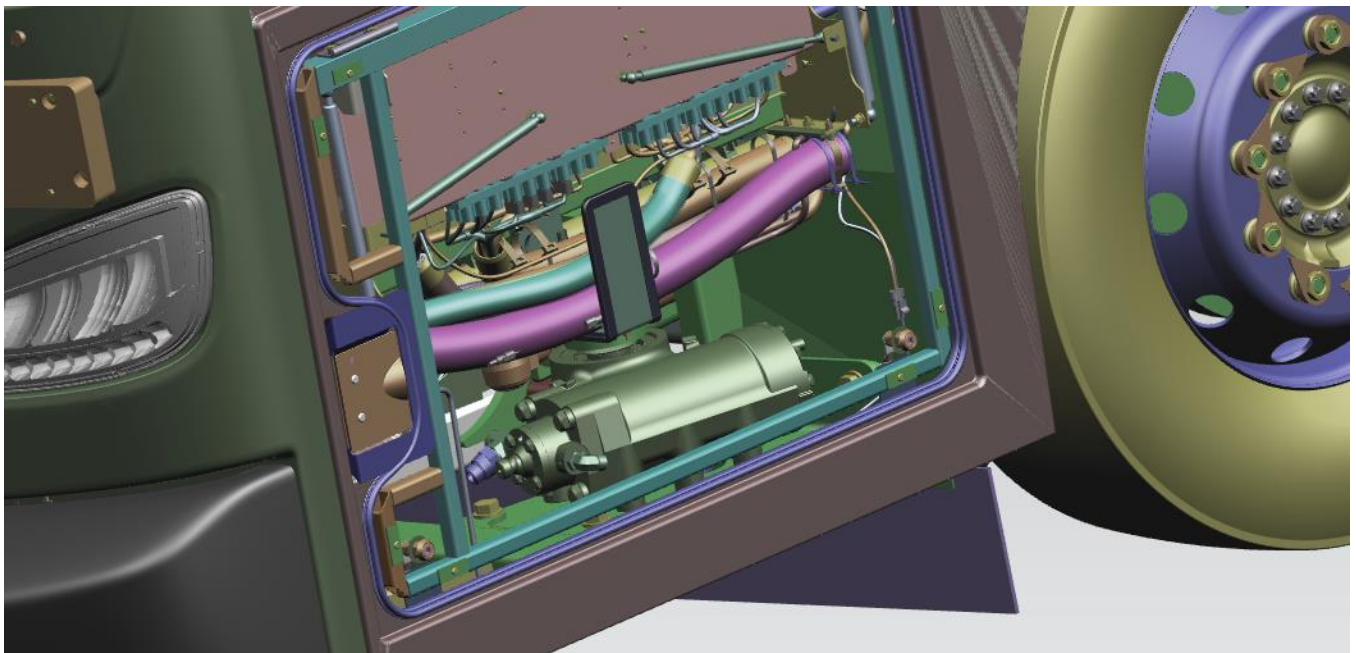

Figure 8 – Front Left side panel
8. Gain access to the Front Left side panel as shown in Figure 8.